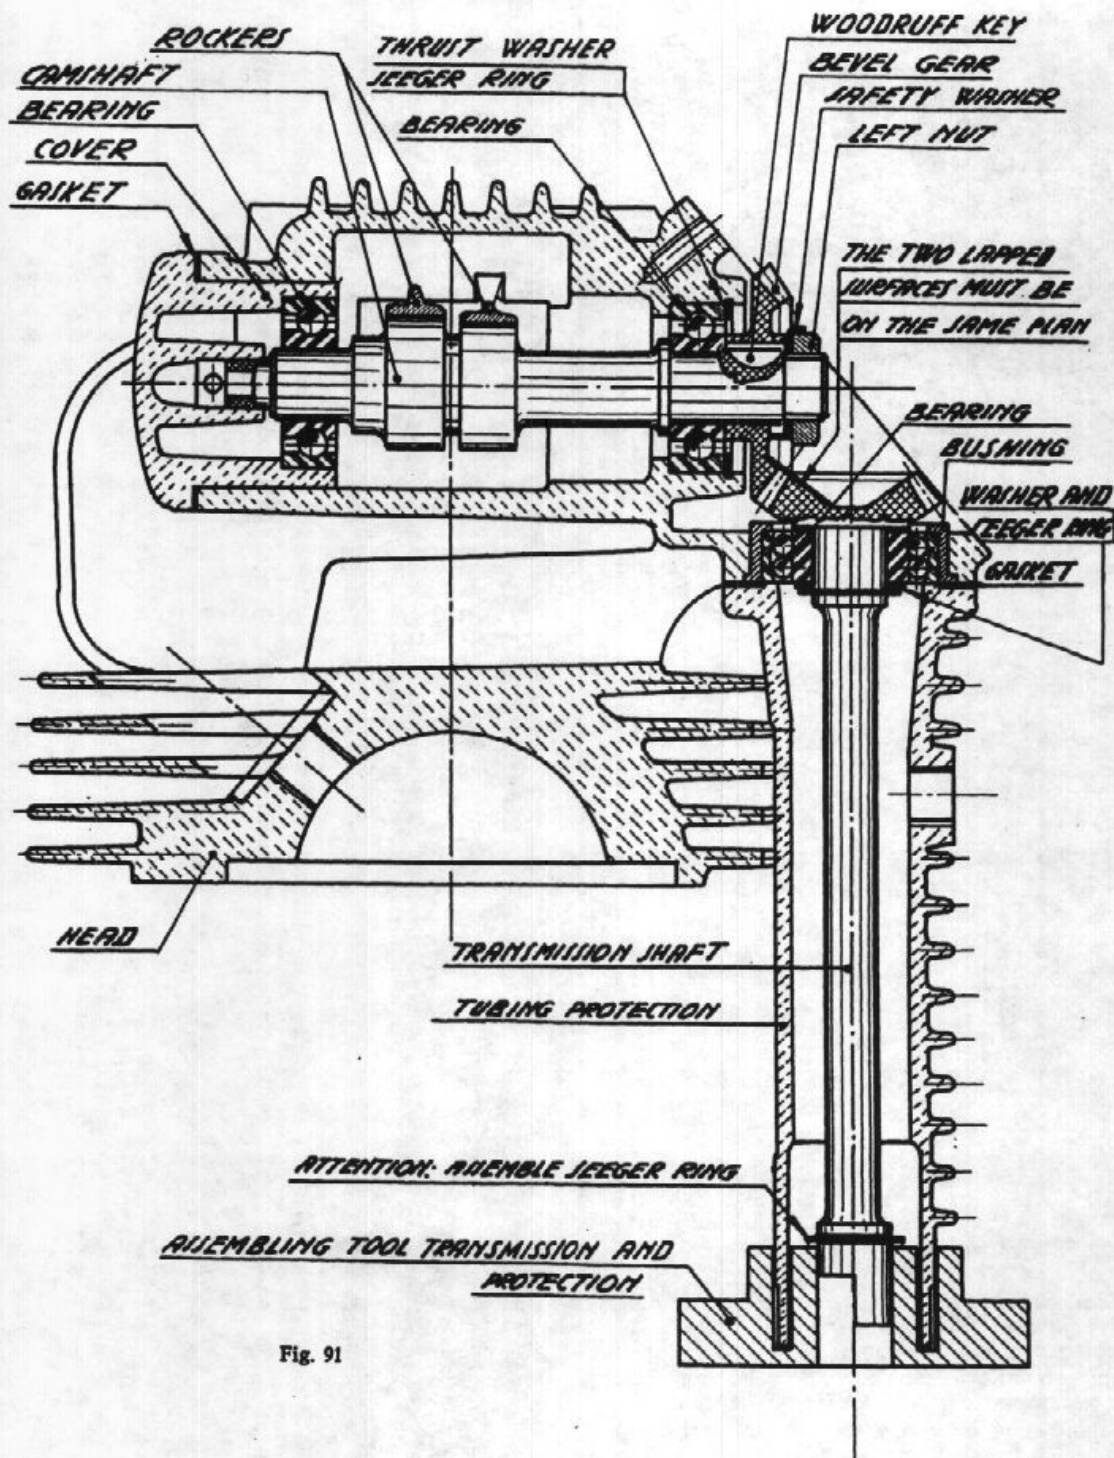

Fig. 91
The foregoing operation must be carried out with the head resting on a raised surface and by inserting tool (91), shown in the picture, into the free end of the drive cover, to ensure the centering of the drive with the upper bearing (see Fig. 91).
Fit the Seeger ring on the end of bevel gear shaft at the lower end of the drive cover. (See Fig. 91, page 87. The Seeger ring can be fitted before the drive assembly is attached to the head. However, it is most important not to forget this ring, otherwise the consequences may be serious).